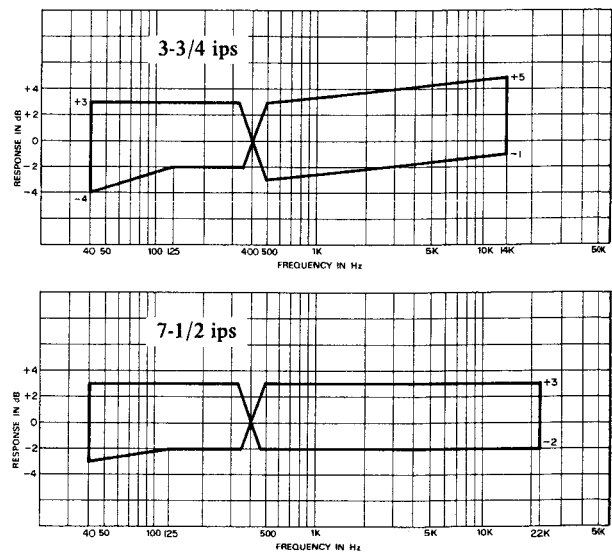

Fig. 8-11 Frequency Response – OVERALL – 2
24. Repeat the above procedure for HIGH, using a signal swept from 40 Hz to 22 kHz. Refer to Response Limits in Fig. 8-11 below.